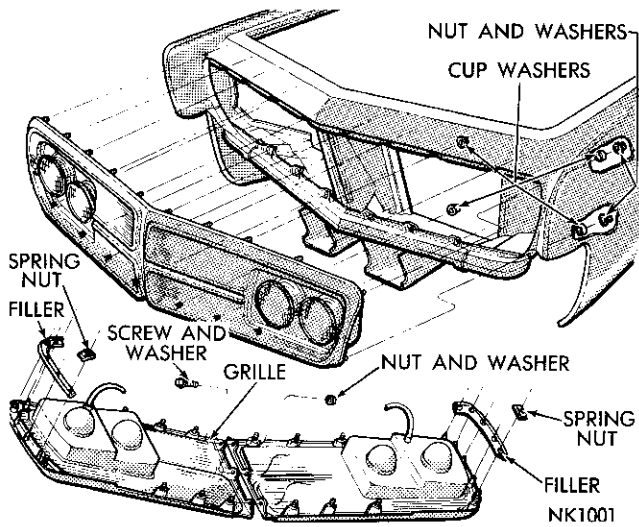

Fig. 6—Grille Assembly (Imperial)
- Refer to Figure 6 for the grille attaching points.
- (1) Remove the grille to the center support bracket screws.
- (2) Remove the nuts attaching the grille to the